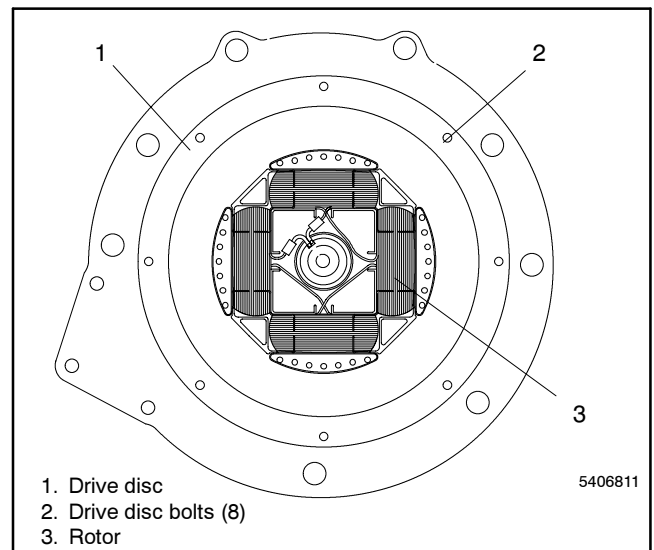

Figure 6-22 Drive Disc and Rotor
20. Remove eight nuts and spacers securing generator drive discs. Support rotor during removal of hardware. When nuts are removed, remove rotor and one drive disc. See Figure 6-22.